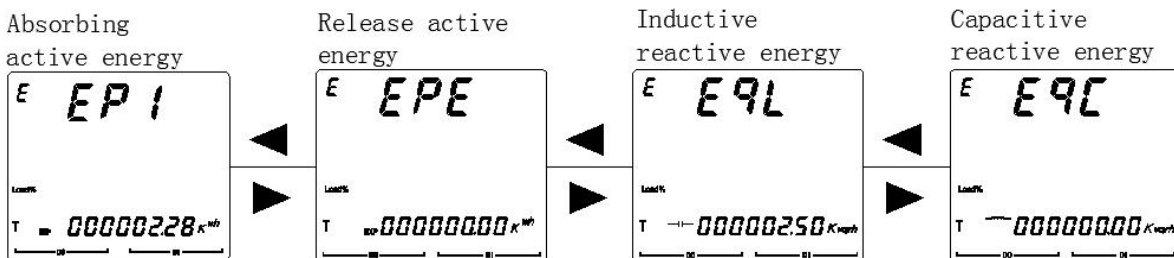

Figure 24
5.2.6 View the power parameters of the PZ72L/80L/96L as shown in Figure 24.